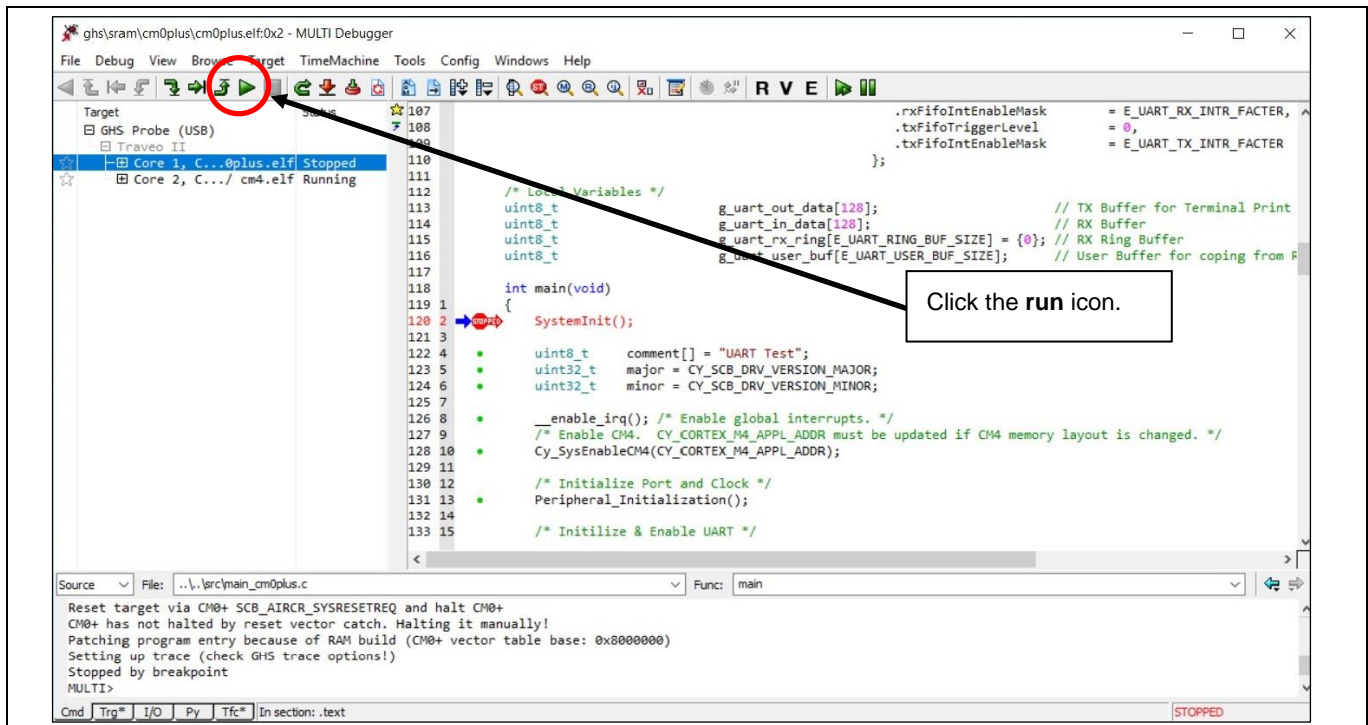

Figure 13 Execution on RAM
4. Click the **run** icon as shown in **Figure 13**.